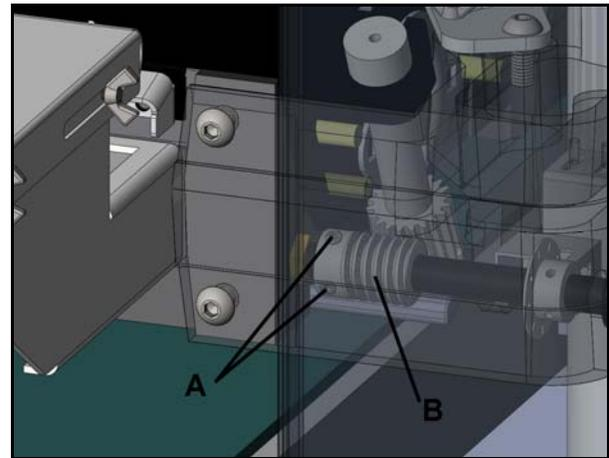

Figure 19
11. Adjustment of the rear drum is done by loosening both the set screws (A, Figure 19) located on the pinion (B, Figure 19) at outboard side. This has to be done thru underneath the outboard support bracket.